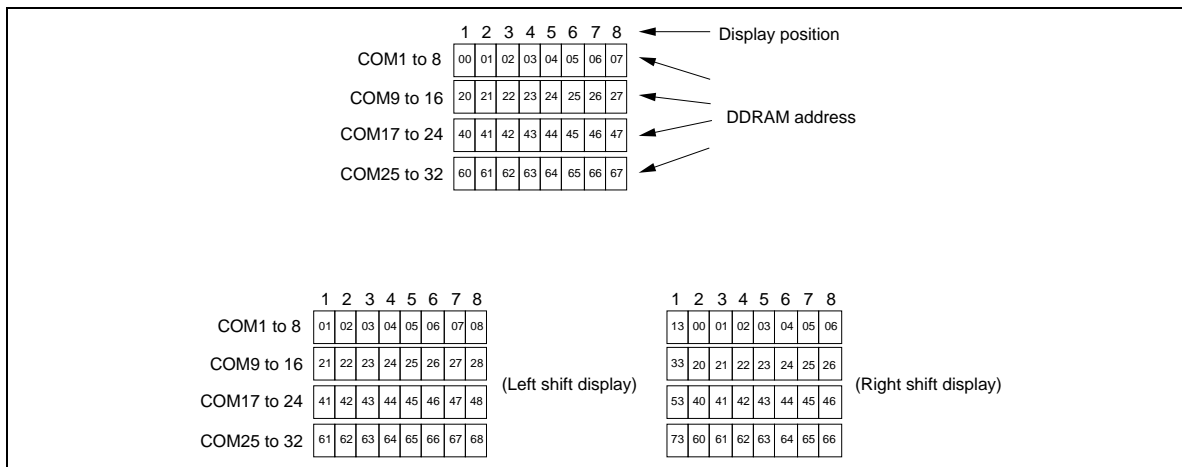

Figure 6 4-Line Display
- Case 1: The first line is displayed from COM1 to COM8, the second line is displayed from COM9 to COM16, the third line is displayed from COM17 to COM24, and the fourth line is displayed from COM25 to COM32. Care is required because the DDRAM addresses of each line are not consecutive. For example, the case is shown in Figure 6 where 8×4 -line display is performed using the HD66710.
- When a display shift operation is performed, the DDRAM address shifts. See Figure 6.